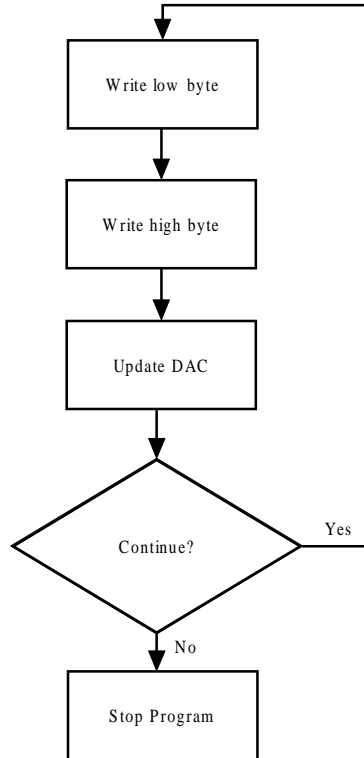

Fig. 4-4 — D/A Conversion Flow Diagram
• **D/A Conversion Flow Diagram (Figure 4-4)**